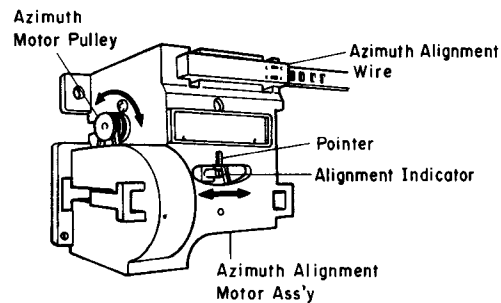

Fig. 2.15
(1) Playback Head Height Adjustment
(2) Azimuth Reference Position Adjustment
- (a) With the Cassette Holder open, press the Forward-Play button. Adjust VR824 on the Auto Azimuth P.C.B. Ass'y so that the Alignment Indicator coincides with the Pointer in the Azimuth Alignment Motor Ass'y. Refer to Fig. 2.15.
(3) Playback Head Azimuth Alignment
(4) Phase Adjustment and Record Head Height Adjustment and Azimuth Alignment